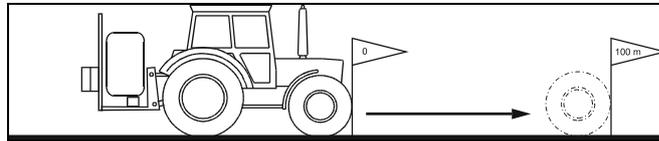

Fig. 4
2. Mark the start and the finish points (Fig. 4).